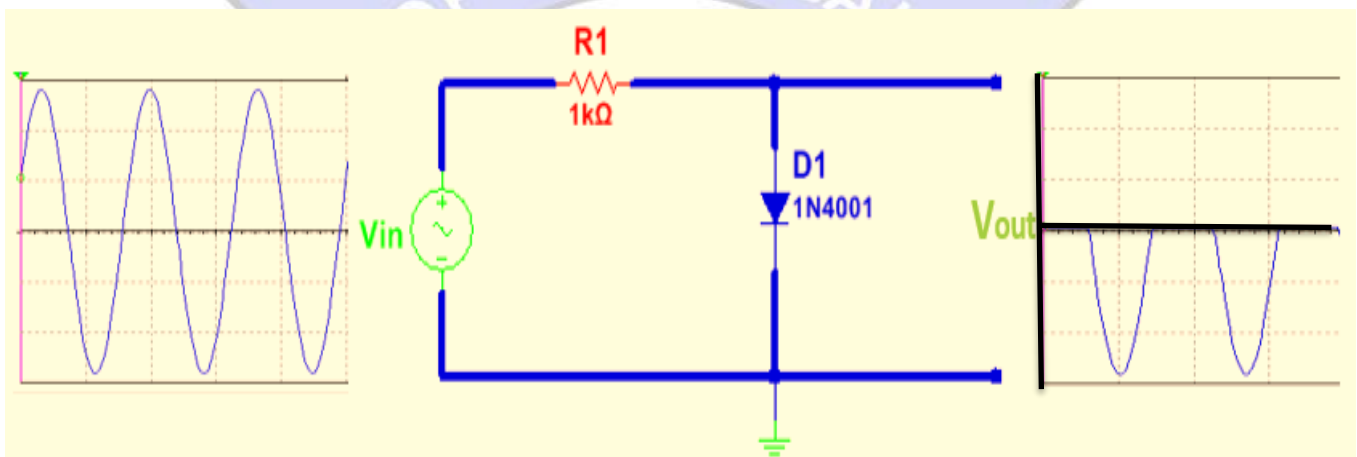

Figure 1: Simple Unbiased Parallel Diode Clipping Circuit
Fig.1 presents a simple diode clipping circuit. This circuit is known as the unbiased parallel diode clipper, and is used to clip or limit the positive part of the input voltage. As the input voltage goes positive, the diode becomes forward-biased. The anode of the diode in this case is at a potential of 0.7V with respect to the cathode. So, the output voltage will be limited to 0.7V when the input voltage exceeds this value. When the input voltage goes back below 0.7V, the diode is reverse-biased and appears as an open circuit. The output voltage will look like the negative part of the input voltage.
- Sketch the output waveform for the clipping circuit of Fig.1, if a load resistance  $R_L$  of value 1 kΩ is connected at the output terminals in parallel with the diode.